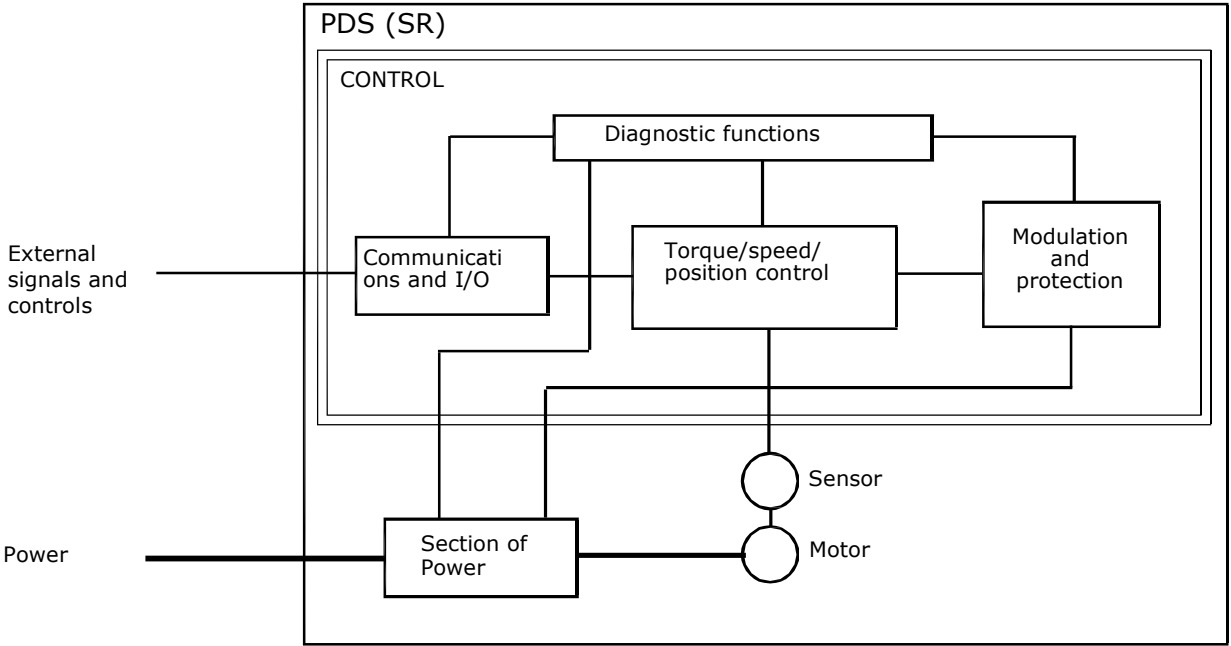

Fig.2: Functional elements of a PDS (SR).
PDS (SR) (power drive system - safety related): electric drive suitable for use in safety-related applications (see fig.2).